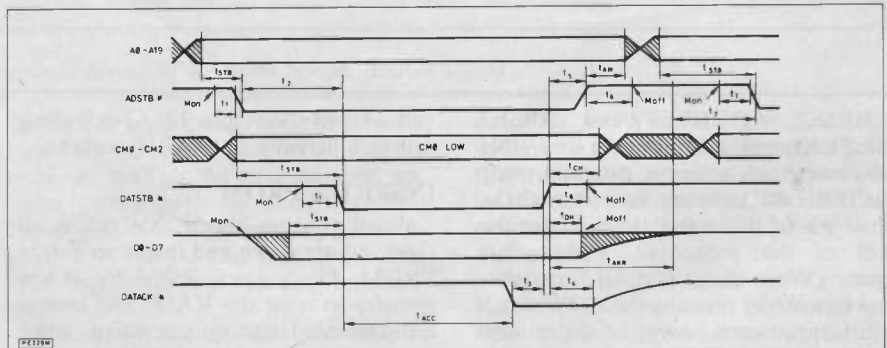

Fig.3. The Write sequence
(2) The Write Sequence (see Fig. 3). This basic form covers memory writes and I/O writes. The master initiates the sequence in a way very similar to that of the read. The first difference is that the master opens its data bus buffers and outputs the data to be written. This data must be stable on the bus t_{STB} before DATSTB* achieves the low state. The slave, recognising that it is addressed sometime after detecting DATSTB* low, enables the particular internal device addressed and, after opening its bus data buffers for input and allowing the internal data bus to settle, generates whatever write strobes are required by the addressed device. Only when the data is being latched internally does the slave pull DATAACK* low. On detecting DATAACK* low the master may begin to wrap up the transaction in exactly the same way as in the Read, with the additional aspect of having to disable its data bus drivers within 45ns (t_{DH}) of DATSTB* reaching the high state. t_{DH} is subject to the same suggested interpretation as are t_{AH} and t_{CH} , as the internal write signals of the slave may have active trailing edges and short set-up times.